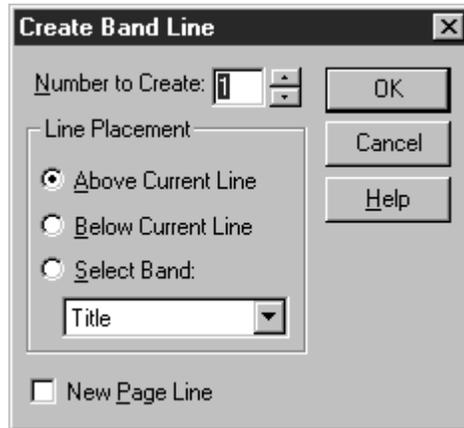

Figure 3.4 Create Band Line Dialog Box
To create a band, select **Insert** ⇒ **Create Band Line**, press **Ctrl+F11**, or double-click in the Band Area to display the Create Band Line dialog (see Figure 3.4). Then do the following:
2. Select Insert ⇒ Create Band Line (or press Ctrl+F11) to display the Create Band Line dialog (see Figure 3.4).